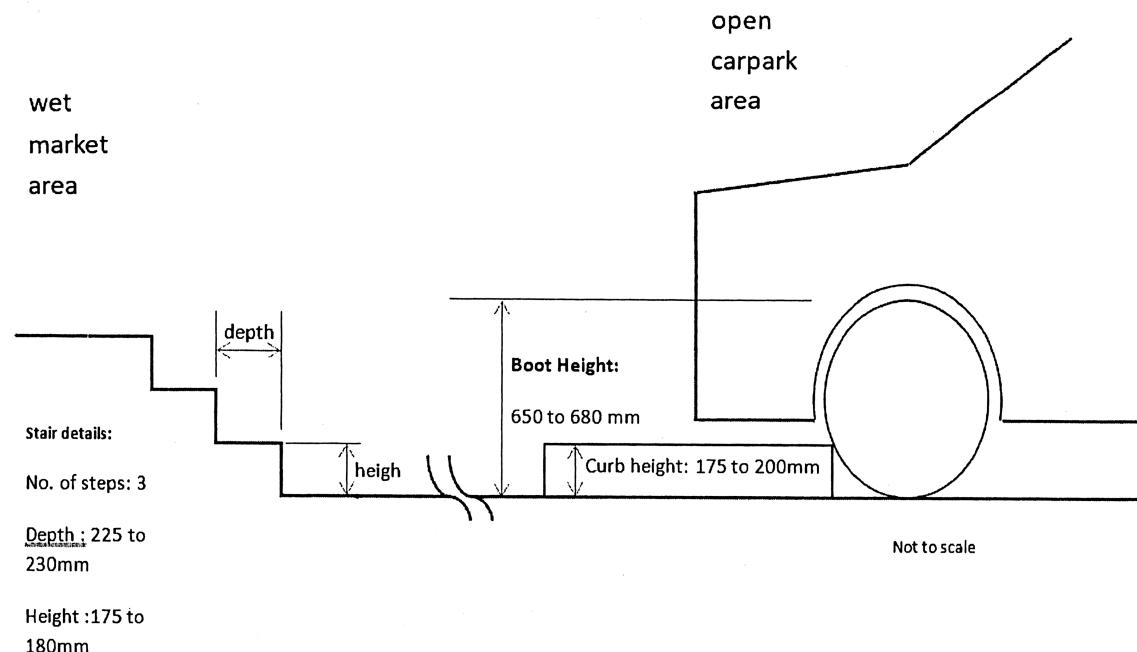

Figure 1: Typical environment the machine will encountered.
- Figure 1 shows the typical environment that the machine would encounter.
Figure 1 appears in page 2.